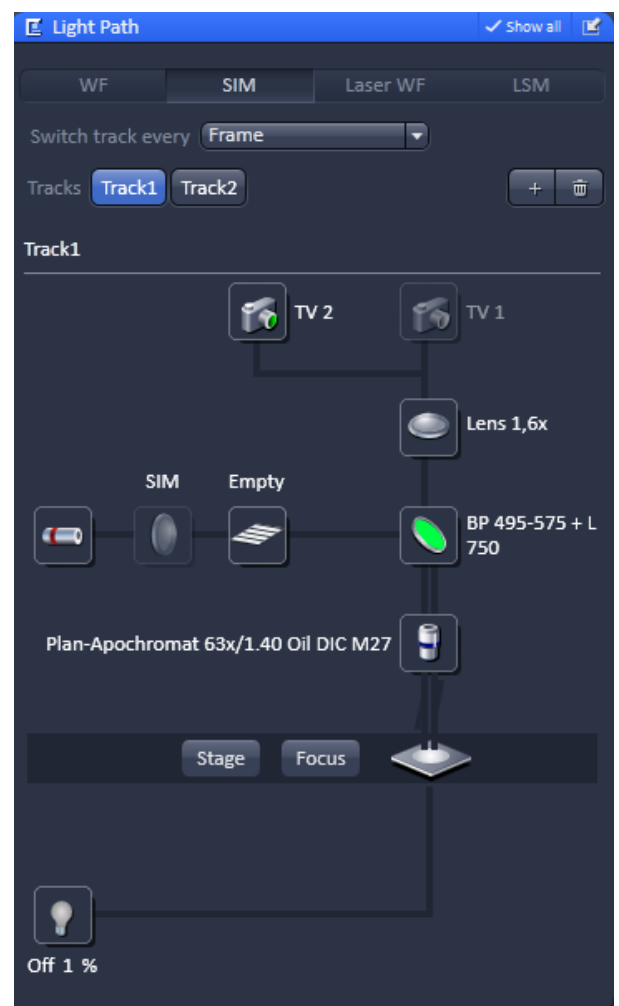

Fig. 28 Light Path tool for SIM
- The open **Light Path** is shown in Fig. 28.